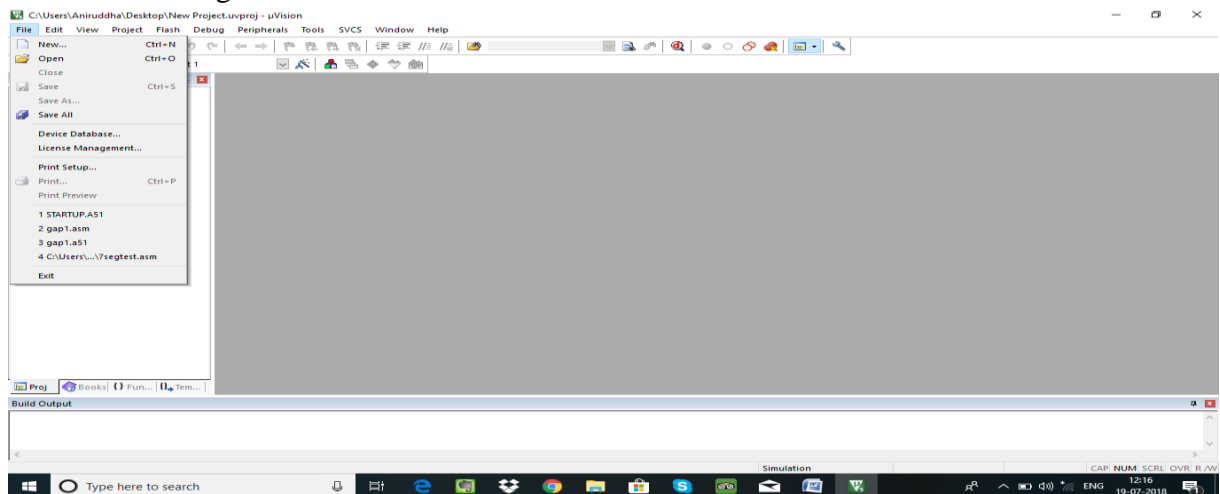

Figure. 8
1. Click file pull down menu, Select new, A text editor window will open. Save this file in a same folder where project was stored. Give extension as .ASM or .A51. Fig. 8, 9 and 10.